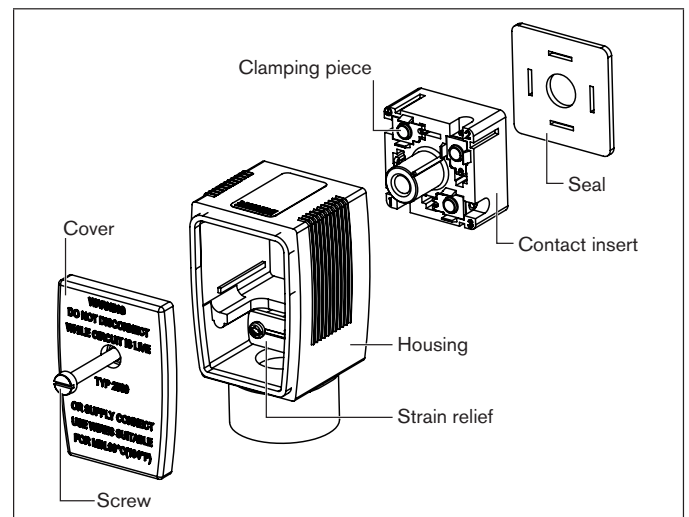

Fig. 2: Exploded view of cable plug Type 2509
- Remove contact insert from housing (see "Fig. 2").